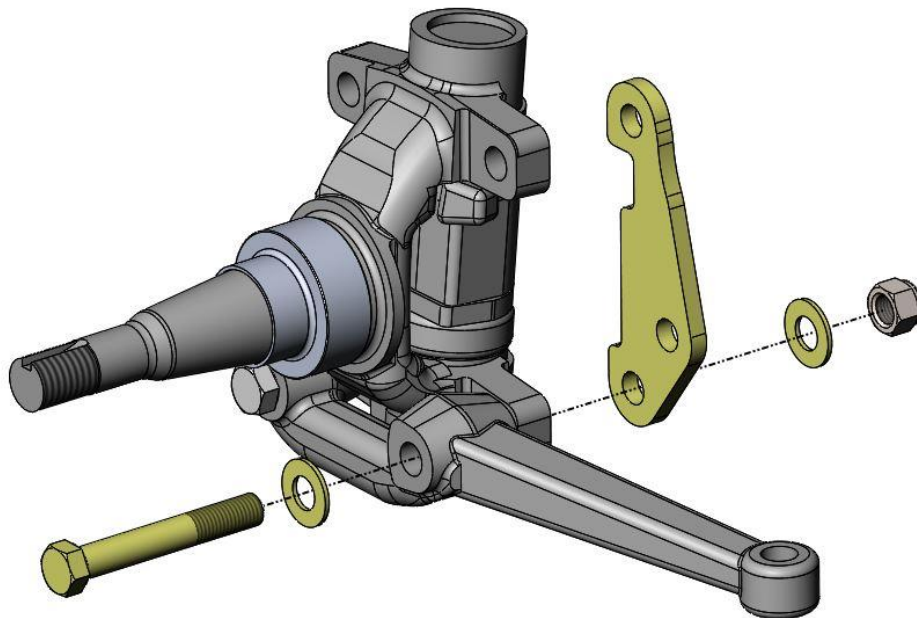

Figure 2 – Secondary Caliper Bracket Installation (Driver Side Shown)
6. Position the Secondary Caliper Mounting Bracket against the spindle. Insert a provided 7/16"-20 x 3" Grade 8 Hex Head Bolt in the lower hole (which is also the steer arm mounting location). When installing the bolt, use a 7/16" Flatwasher on both sides along with a 7/16"-20 Nyloc Nut. With the nut installed, loosely tighten bolt along with the OE bolt used in the forward steer arm. The bolts will be fully tightened in a later step. This can be seen in Figure 2 below.